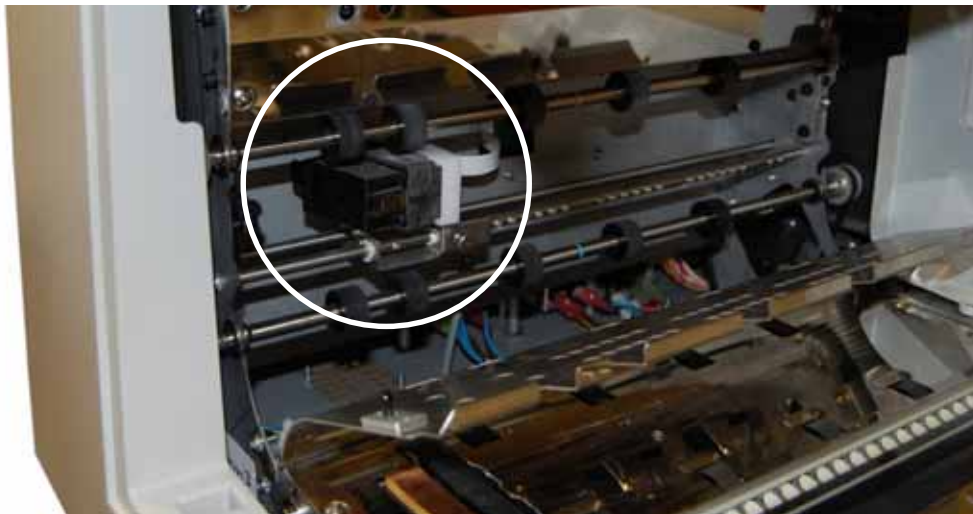

Figure 23: Open the back printer access plate
- a. Press on the left side of the printer access plate (as shown in Figure 23) to open release the latch and access the printer.